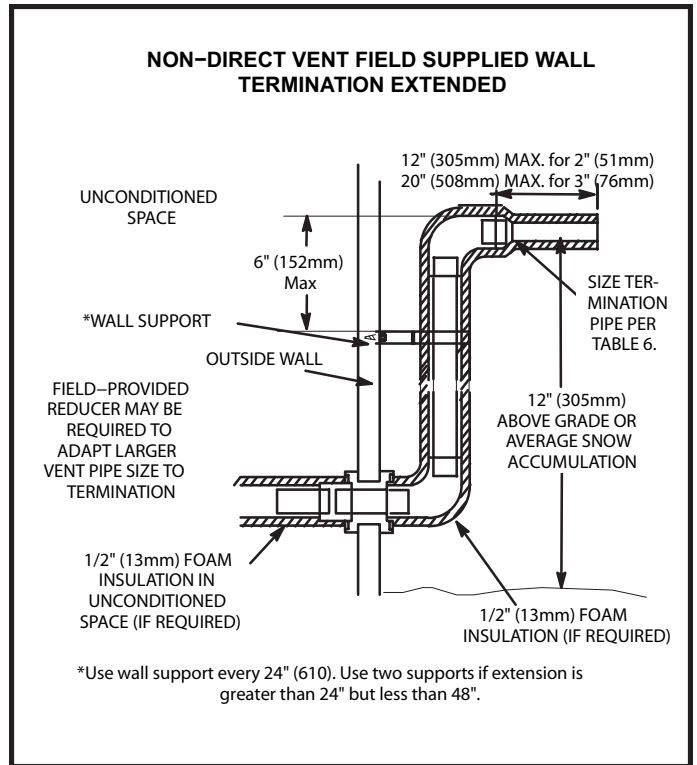

Figure 41
- If exhaust piping must be run up a sidewall to position above snow accumulation or other obstructions, piping must be supported every 24" (610 mm) as shown in Figure 41. When exhaust piping must be run up an outside wall, any reduction in exhaust pipe size must be done after the final elbow.